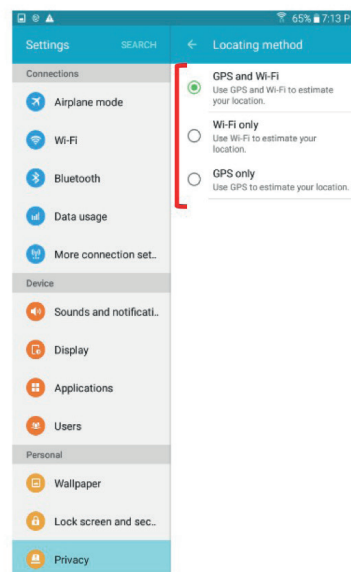

Figure 11: Samsung Galaxy Tab A - Selecting Locating Method
2. By clicking on “Locating Method” the user can also select (Figure 11) from three options available for estimating location: